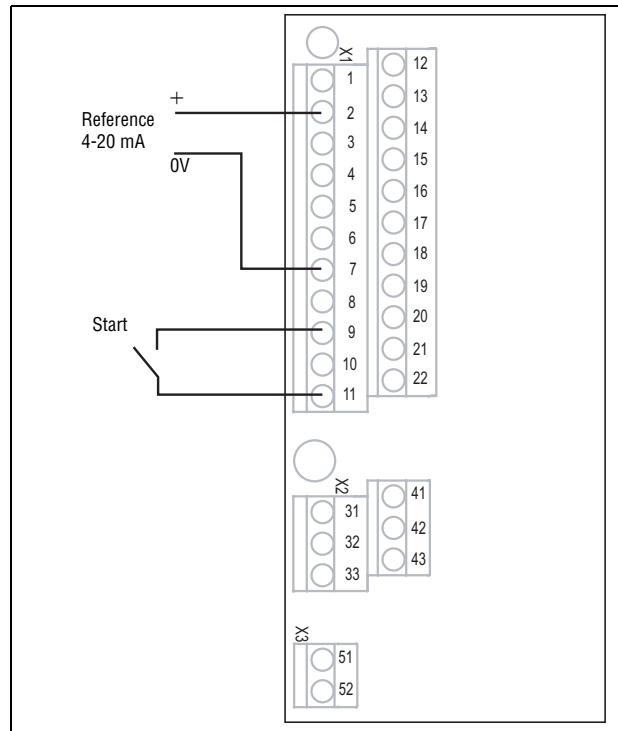

Fig. 22 Wiring
9. Connect a reference value between terminals 7 (Common) and 2 (AnIn 1) as in Fig. 22.
10. Connect an external start button between terminal 11 (+24 VDC) and 9 (DigIn2, RUNR) as in Fig. 22.
14. Connect digital and analogue inputs/outputs as in Fig. 22.